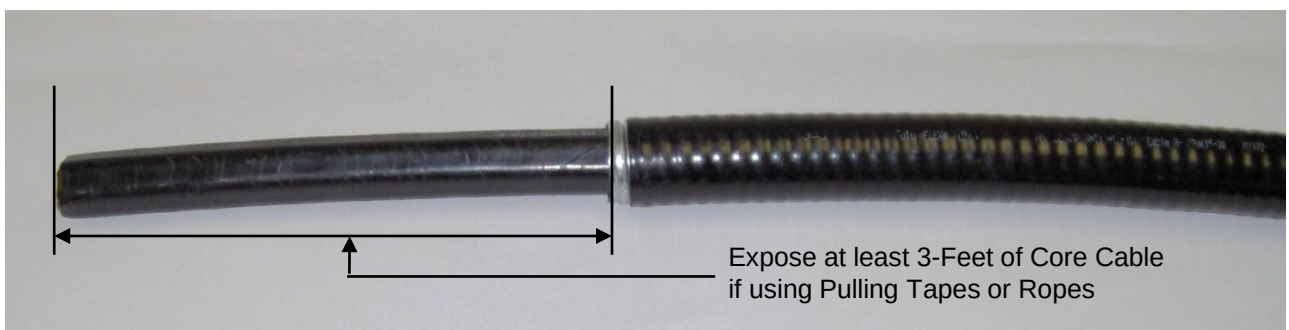

Figure 37
27.5 Unravel the Interlock Galvanized Steel wrap back to where the Polyethylene outer jacket was removed. Bend the steel wrap back and forth until it breaks and remove it from around the core cable. These steps expose approximately 3-feet of the core cable beyond the armor. **See Fig. 37.**